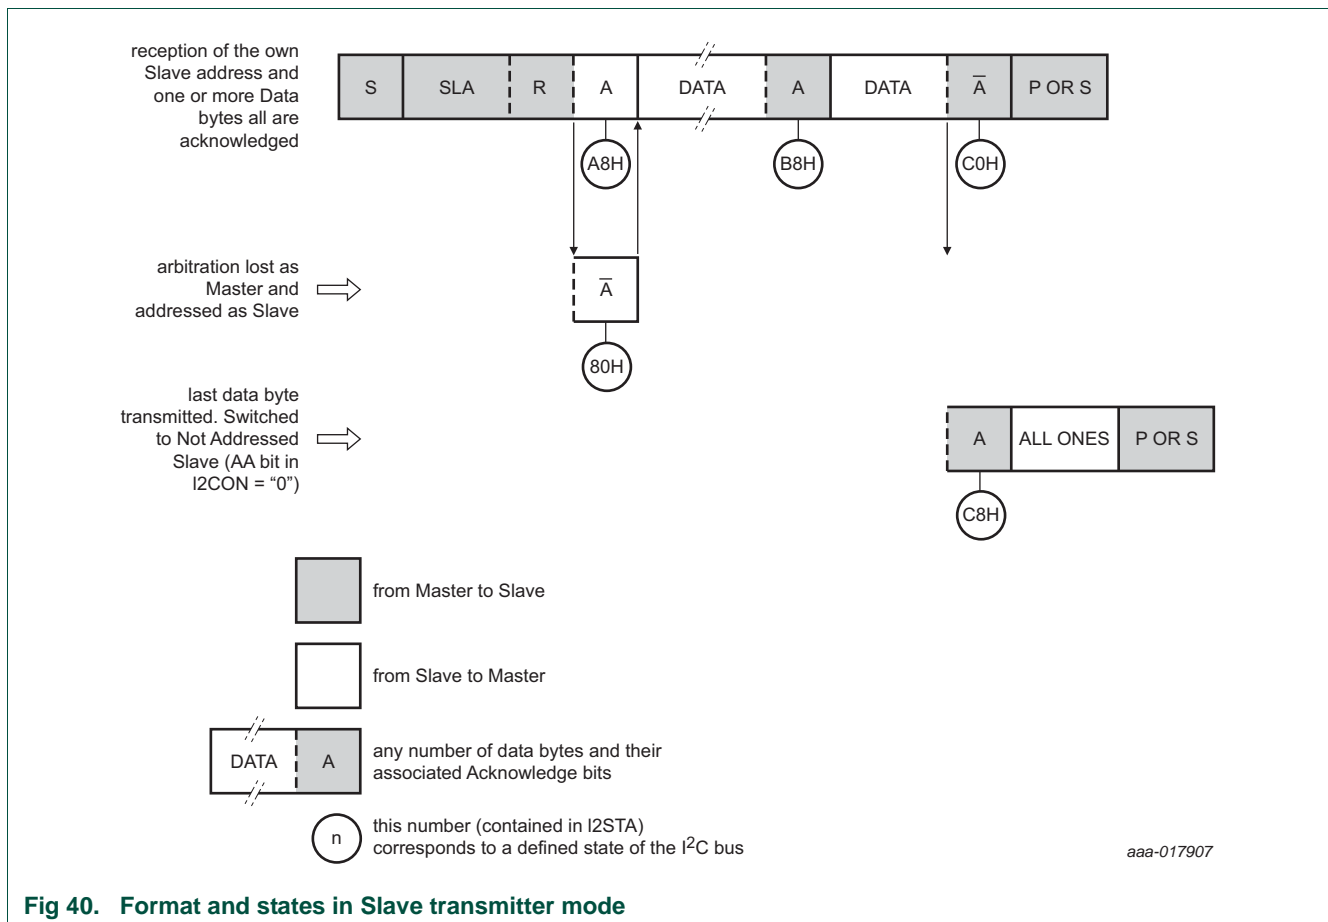

Fig 40. Format and states in Slave transmitter mode
In the Slave transmitter mode, a number of data bytes are transmitted to a master receiver (see Figure 40). Data transfer is initialized as in the Slave receiver mode. When ADR and CON have been initialized, the I2C-bus block waits until it is addressed by its own slave address followed by the data direction bit. The data direction bit must be logic 1 (Read) for the I2C-bus block to operate in the Slave transmitter mode. After its own slave address and the R bit have been received, the serial interrupt flag (SI) is set and a valid status code can be read from STAT. This status code is used to vector to a state service routine,